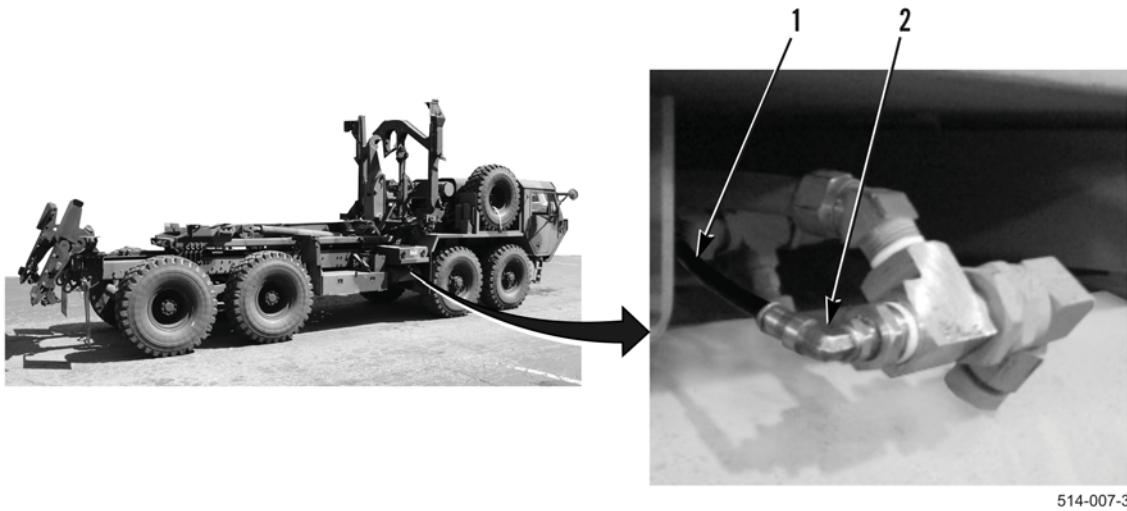

Figure 10. HEMTT M1120A4 Air Tank Hose Installation.
2. Connect pneumatic hose (Figure 10, Item 1) to press-lock fitting (Figure 10, Item 2).